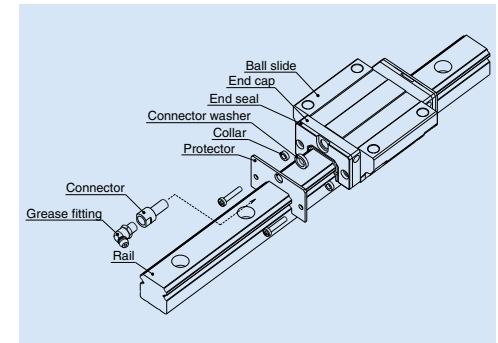

Fig. 7.3 Protector
(2) Protector
- When attaching a grease fitting to the end cap after the protector is equipped, you require the connector shown in **Fig. 7.3**. Please specify the connector set when ordering the linear guides.